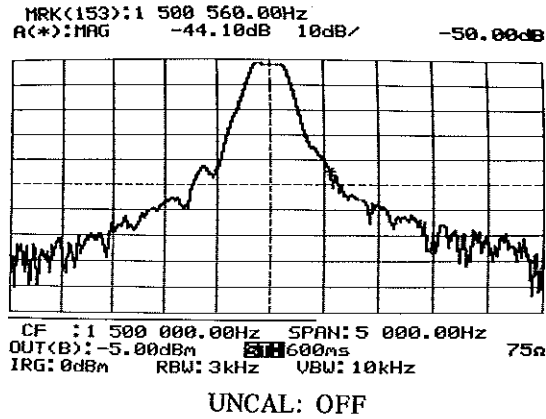

Fig. 3-4 ST Adjustment (A)
7. Check the UNCAL lamp. If it is on, increase ST until it goes out (Fig. 3.4).